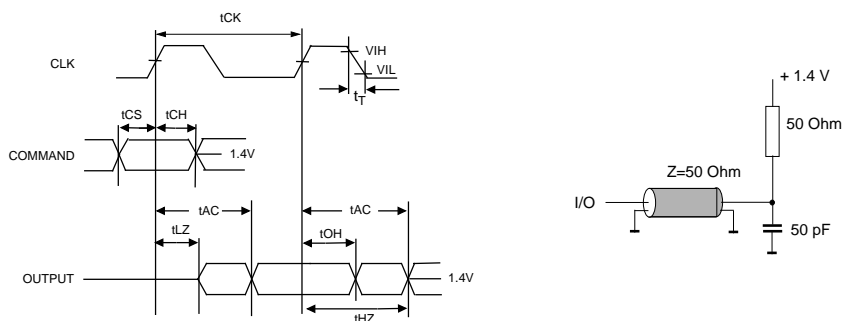

Figure 1.
2. AC timing tests have V_{IL} = 0.8V and V_{IH} = 2.0V with the timing referenced to the 1.4 V crossover point. The transition time is measured between V_{IH} and V_{IL}. All AC measurements assume t_T = 1ns with the AC output load circuit shown in Figure 1.